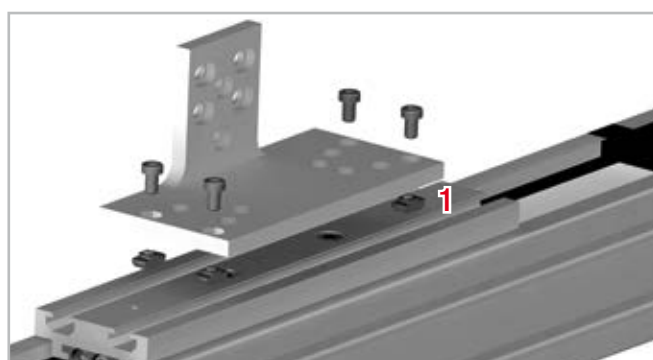

Fig. 93
1. Insert the screws to be used for the connection to unit 1 into the prepared holes (see fig. 93).